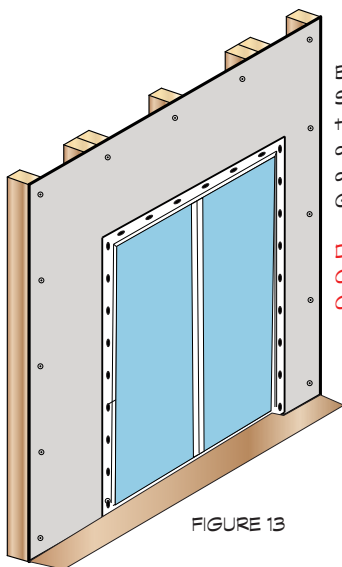

FIGURE 13
13. Fasten one upper corner of the nailing fin to keep the door in place. Check the sill with a level and adjust the shims as required to assure the sill is level. Do not force shims into place, as this may bow the door frame (Figure 13, below).